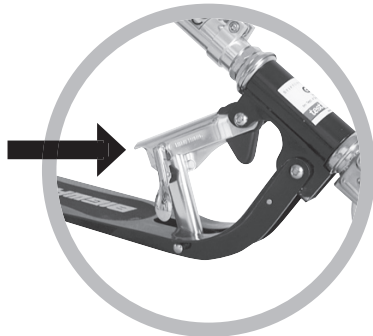

Fig. 2
1. Pull the lever to the right over the footboard in order to loosen the transport protection. (Fig. 2)
6. Pull up the lever (to the right over the footboard), in order to release the assembly protection. (Fig. 2)